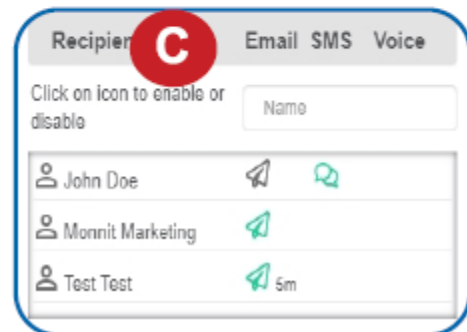

Figure 25
- C.** Recipient list identifies who will receive the notification. See Figure 25.